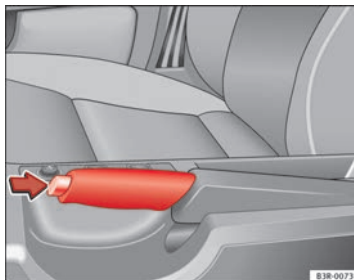

Fig. 138 Detailed view of the centre console: Handbrake on
- Pull the lever up slightly and *at the same time* press in the release button ⇒ fig. 138 -arrow-.